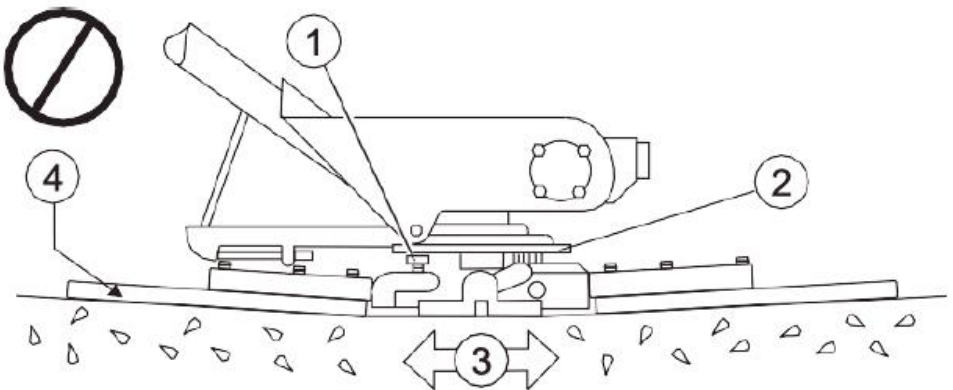

FIG.17
13.2.2 Pitch the blades as flat as possible. The adjustment bolts should all barely make contact with the lower wear plate on the spiderbox. If one is not making contact, adjustment will be necessary. (FIG.17,FIG.4).
FIG.17 illustrates, "incorrect alignment", worn spider bushings or bent trowel arms. Check that the adjustment bolt is barely touching (0.10" max. clearance) lower wear plate. All alignment bolts should be spaced the same distance from the lower wear plate.